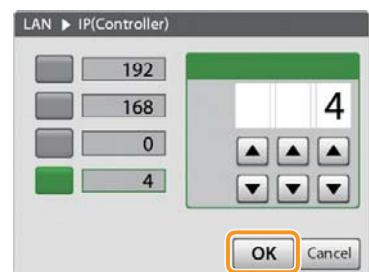

Figure 3-110
5. Tap [OK] to complete the setting. (Figure 3-110)